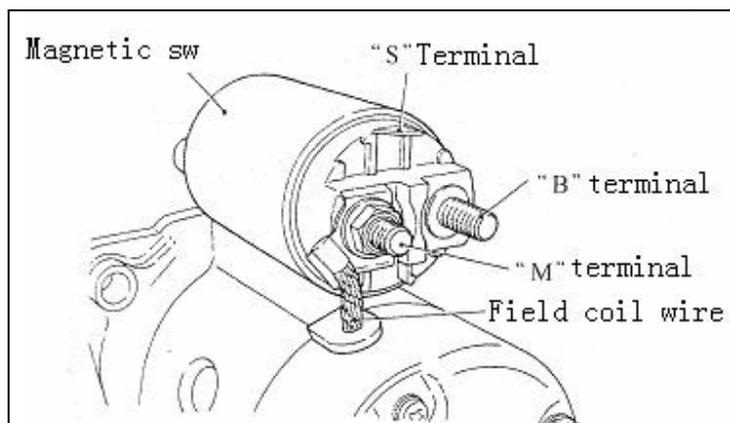

Fig. 9-11
(1) Magnetic Switch Removal see Fig. 9-11: